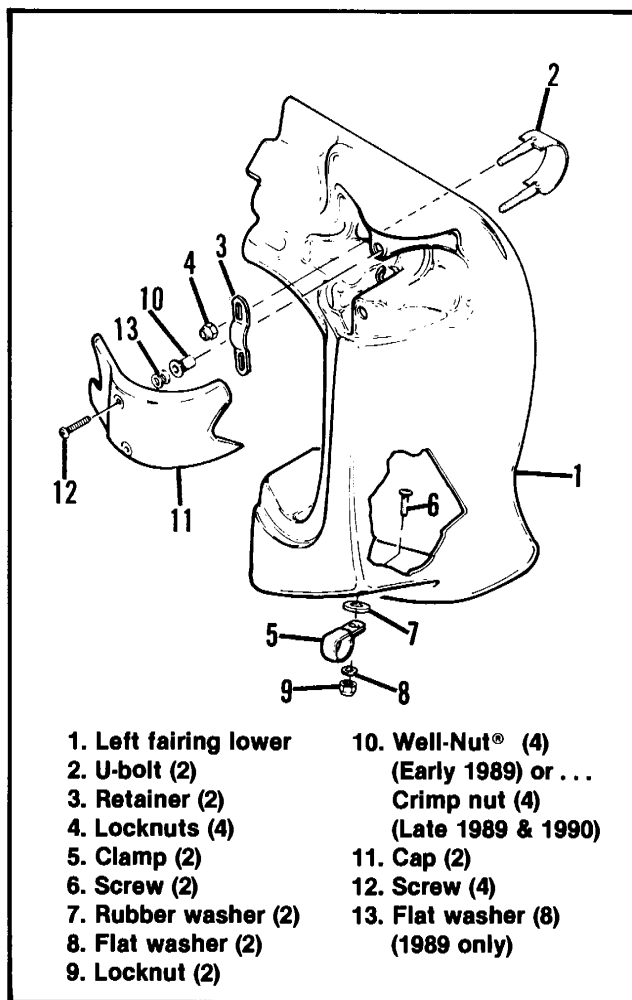

Figure 2-152. FLHTC-Ultra Fairing Lower
3. See Figure 2-152. Remove screw (6) and nut (9). Fairing lower can now be removed. Remove clamp (5) from engine guard if fairing lowers are not being re-installed.
2. See Figure 2-152. Install clamp (5) on engine guard with tabs to rear.
3. Install bolt (6), washer (7), lockwasher (8) and nut (9) in locations shown. Tighten bolt (6), nut (9) to 12 ft-lbs torque.
1. See Figure 2-152. Remove two screws (12) and fairing lower cap (11). Be careful not to lose two washers (13).
2. Remove nuts (4) and retainer (3). Remove U-bolt (2) through opening (door) of glove box. Glove box is now free and can be removed.
3. Remove screw (6) and nut (9). Fairing lower can now be removed. Remove clamp (5) from engine guard if fairing lowers are not being re-installed.